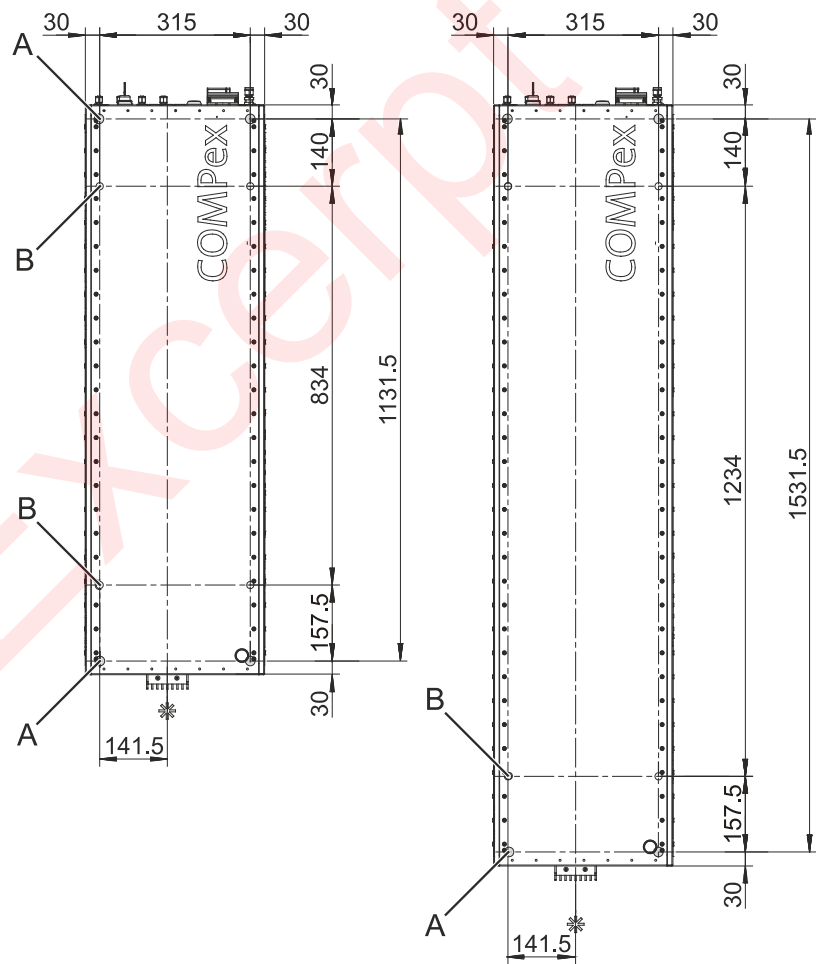

Figure 184: Position of anchoring device location holes
Figure 184 indicates the positions of the holes (A) in relation to the beam exit position, sides of the housing and laser device feet (B). For further information about the location and configuration of the feet refer to Section 8.3.3 on page 371.